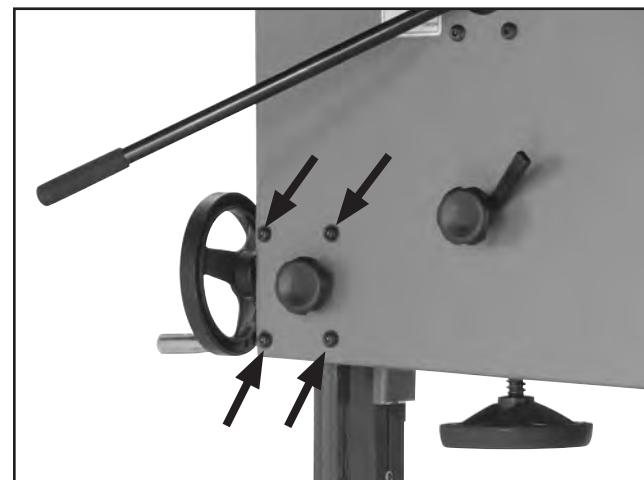
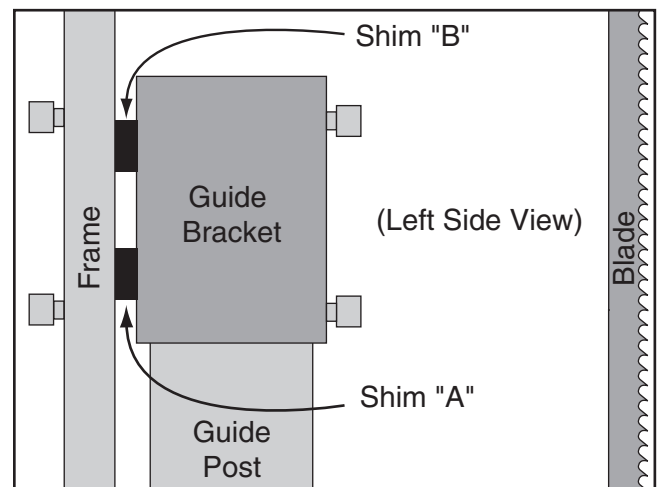

Figure 69. Guide post adjustment screws.
Figure 71. Location for placing shims.
7. Loosen each of four screws shown in **Figure 69** ¼ turn.
9. Tighten screws shown in **Figure 69**.
7. Loosen four screws shown in **Figure 69** enough to fit metal shims between frame and guide post bracket (see **Figure 71**).
8. Tighten four screws shown in **Figure 69**, then repeat **Steps 4–5**.